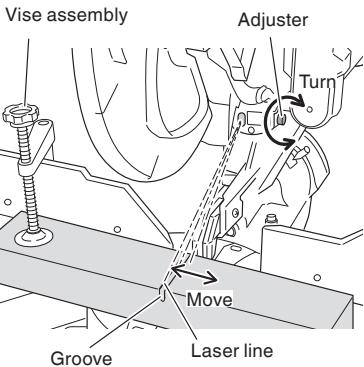

Fig. 19
- (2) Then, turn the adjuster and shift the laser line. (If you turn the adjuster clockwise, the laser line will shift to the right and if you turn it counterclockwise, the laser line will shift to the left.) When you work with the ink line aligned with the left side of the saw blade, align the laser line with the left end of the groove. (Fig. 19) When you align it with the right side of the saw blade, align the laser line with the right side of the groove.
- (3) After adjusting the position of the laser line, draw a right-angle ink line on the workpiece and align the ink line with the laser line. When aligning the ink line, slide the workpiece little by little and secure it by vise at a position where the laser line overlaps with the ink line. Work on the grooving again and check the position of the laser line. If you wish to change the laser line's position, make adjustments again following the steps from (1) to (3).